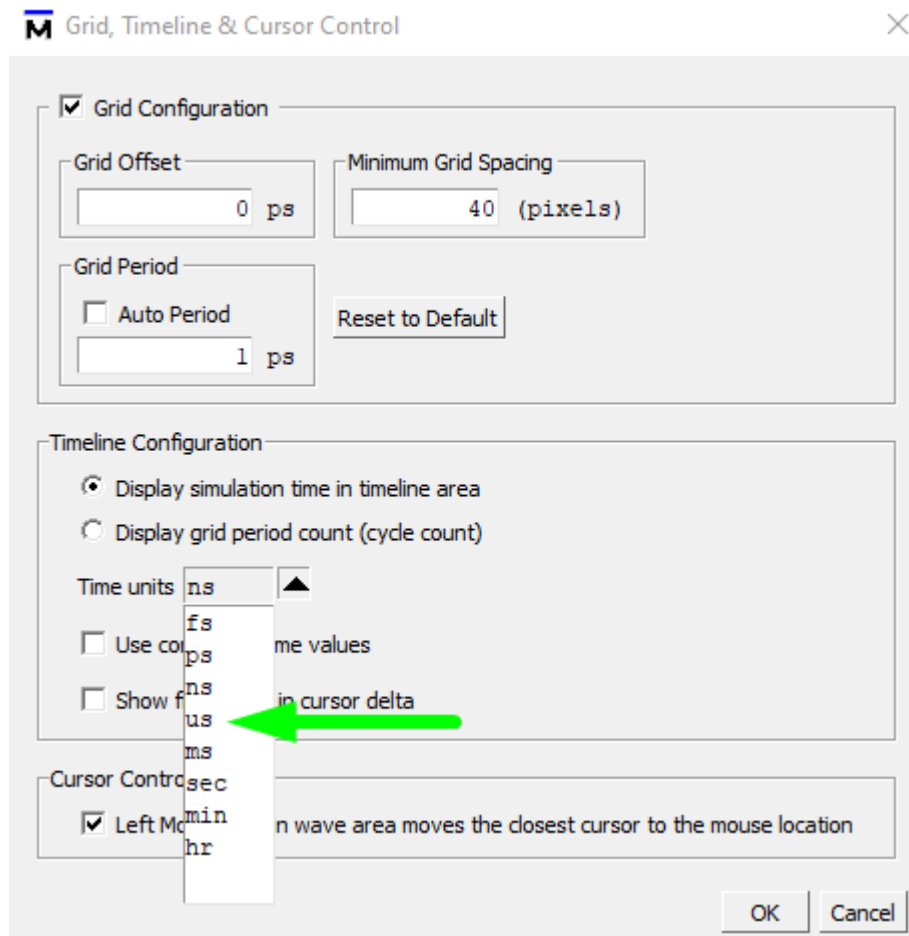

Figure 23
- In the Grid, Timeline & Cursor Control dialogue box, select ns as the Time Units as shown on the Figure 23.